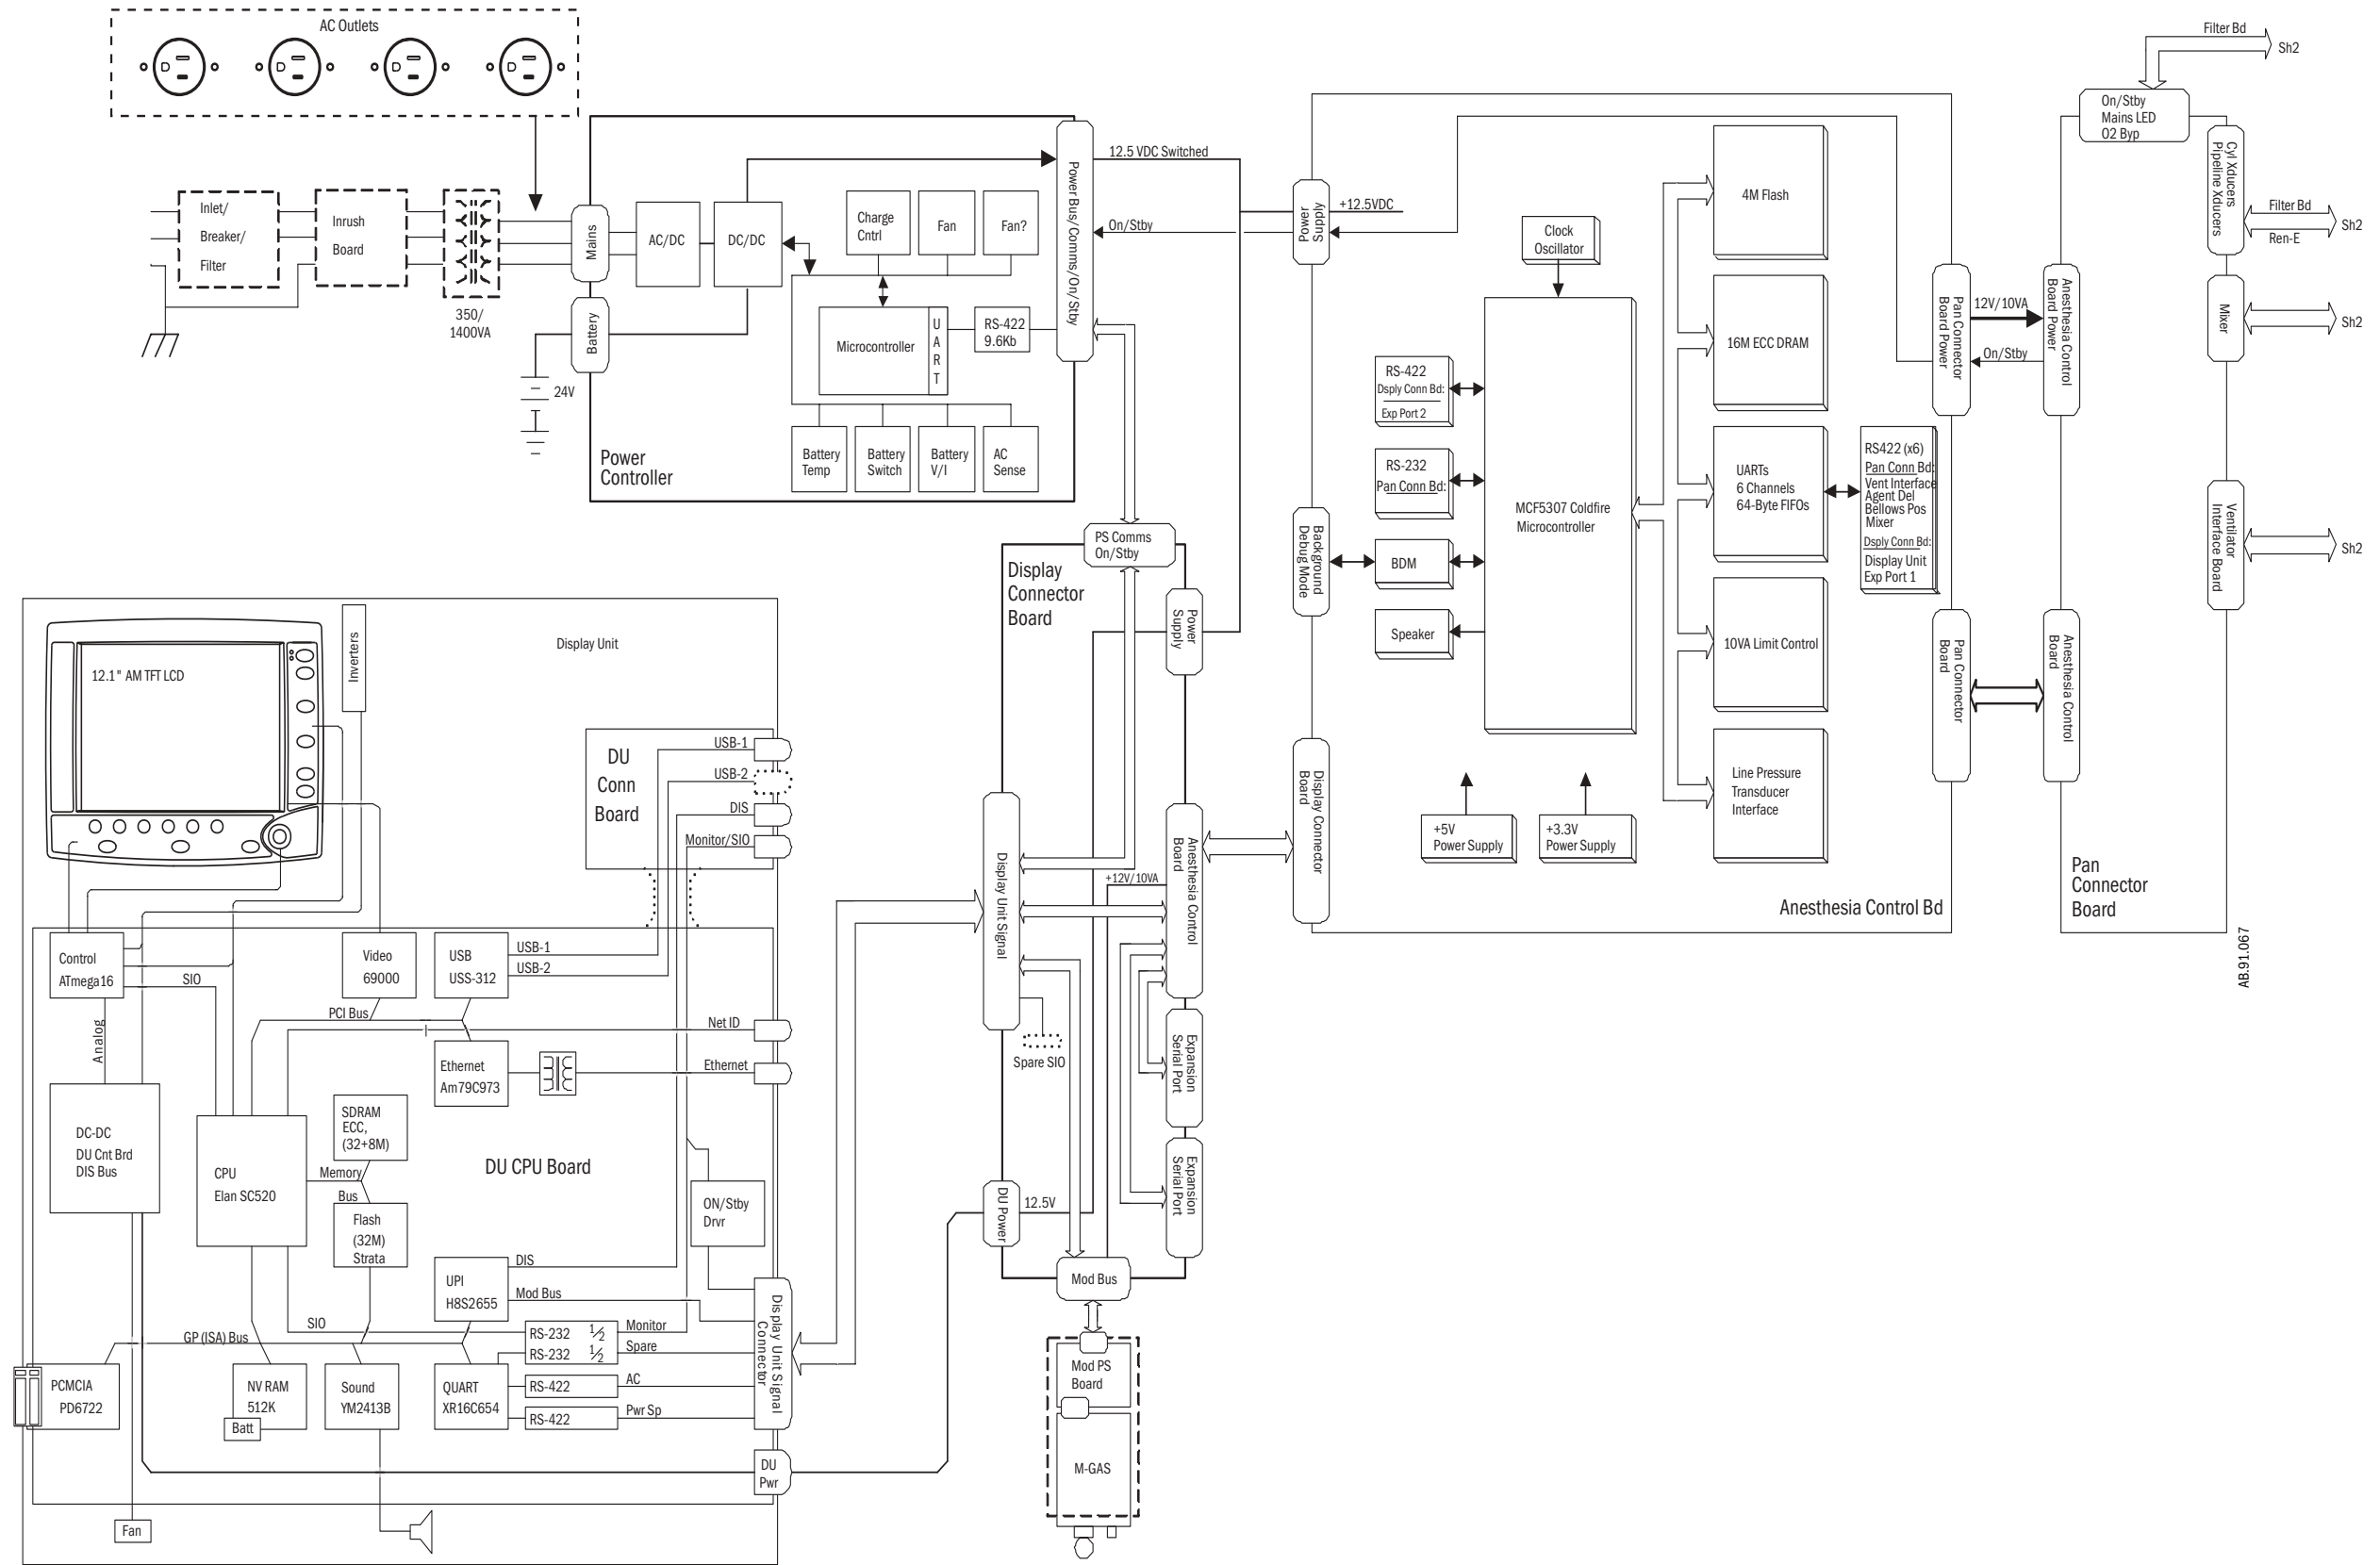

Figure 11-5 • System block diagram (sheet 1 of 2)
- Figure 11-5** System block diagram (sheet 1 of 2). 11-6